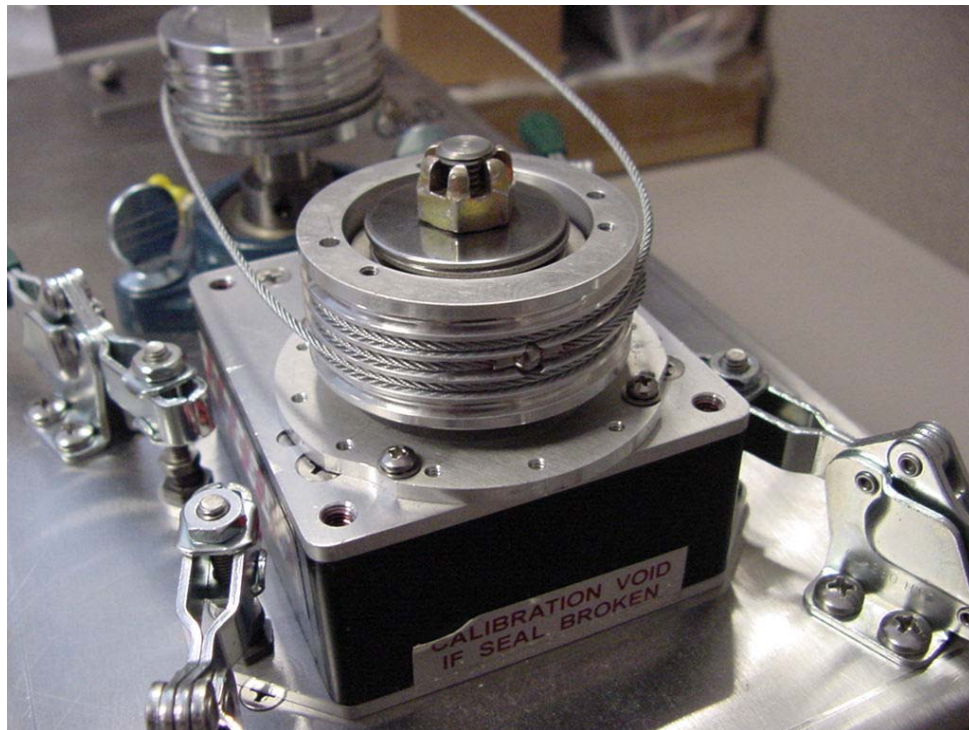

Figure 3-8. Cable Placement (unit capstan)
- 2) Wrap cable around unit capstan two and one half turns, with ball in center. See Figure 3-8. For sprocket and chain method, refer to Section 3.3.5.1.